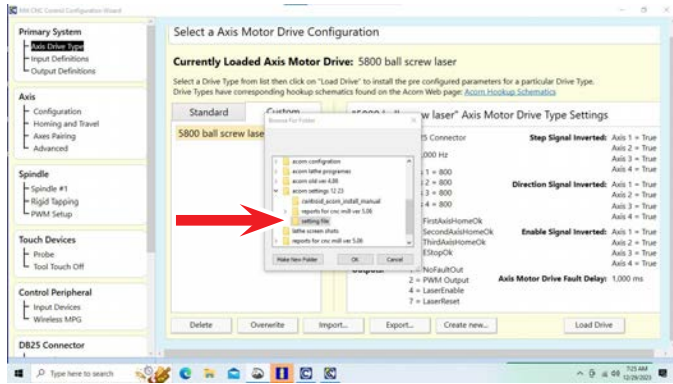

FIGURE 5
4. Go to *acorn settings12 23>setting file*, then click **OK** (see Figure 5).